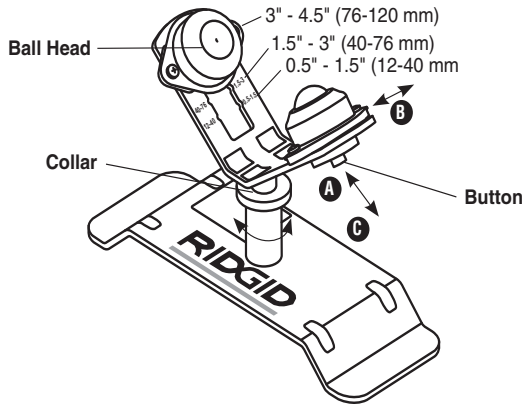

Figure 1 – PC116TS Tube Stand
- b. Move ball head to proper tube size position (see Figure 1).